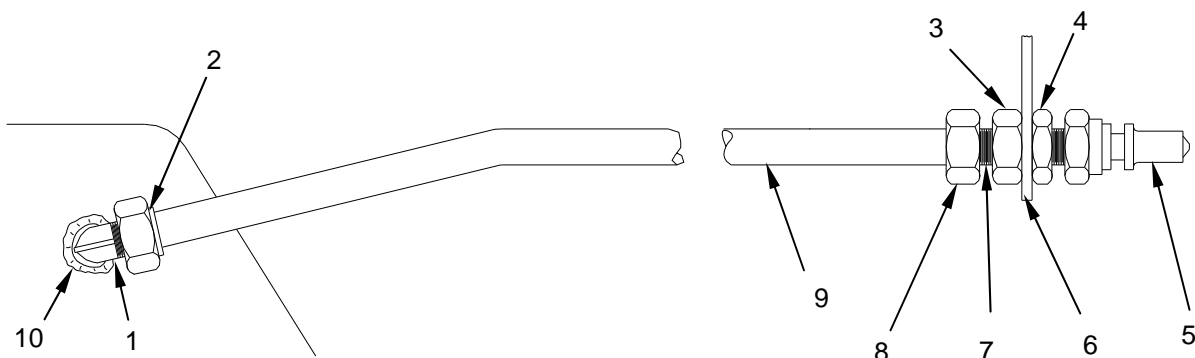

Figure 1. Replace the Fuel Line Assembly.
11. Apply new pipe sealer compound to the serviceable elbow fitting (Figure 1, Item 1) and screw in place on fuel tank port (Figure 1, Item 10). Make sure that the elbow is installed at the same angle as before removal.
12. Install the union (Figure 1, Item 7) through the bracket (Figure 1, Item 6) and thread the inner locking union (Figure 1, Item 3) onto the union. The union must have a small amount of sideways movement to allow for the correct alignment of the fuel line.
13. Install the serviceable fuel line assembly (Figure 1, Item 9) into the elbow fitting (Figure 1, Item 1) and hand tighten the compression fitting (Figure 1, Item 2).
14. Align the fuel line assembly (Figure 1, Item 9) to the union, and hand tighten the compression fitting (Figure 1, Item 8) onto the union (Figure 1, Item 7).
15. When the fuel line assembly (Figure 1, Item 9) is in the correct alignment, between the elbow fitting (Figure 1, Item 1) and the union (Figure 1, Item 7), hand tighten the outer union locking nut (Figure 1, Item 4) against the bracket. Then hand tighten the inner locking union nut (Figure 1, Item 3) against the bracket.
16. Using suitable wrenches, tighten the inner union locking nut (Figure 1, Item 3) and the outer union locking nut (Figure 1, Item 4) into place.
17. Tighten the fuel line compression fitting (Figure 1, Item 8) to the union (Figure 1, Item 7). Support the fuel line so that it does not rotate out of alignment.
18. Tighten the fuel line compression fitting (Figure 1, Item 2) to the elbow fitting (Figure 1, Item 1).
19. Install two serviceable clamps to the fuel line assembly (Figure 1, Item 9) and the MBU frame.
20. Install fuel interface fitting (Figure 1, Item 5) as described in WP 0040.